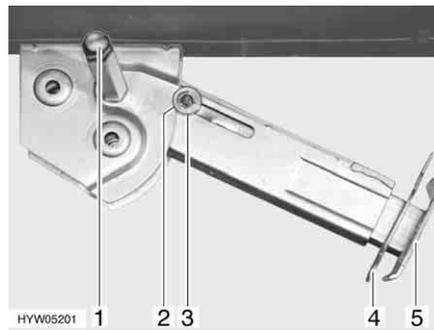

Fig. 53 Steady leg
- Place the socket spanner on the hexagon nut (Fig. 53,1) and rotate until the steady leg is in a perpendicular downward position.
- Remove the splint (Fig. 53,4) out of the support foot extension (Fig. 53,5).
- Place the socket spanner on the hexagon nut (Fig. 53,1) and rotate until the steady leg is clear of the ground.
- Push in the support foot extension (Fig. 53,5) and insert the splint (Fig. 53,4) in the drilled hole in the support foot extension.
- Rotate the hexagonal nut (Fig. 53,1) with the socket spanner until the steady leg has swung upwards and the guide disc (Fig. 53,3) has completely retracted into the notch (Fig. 53,2).